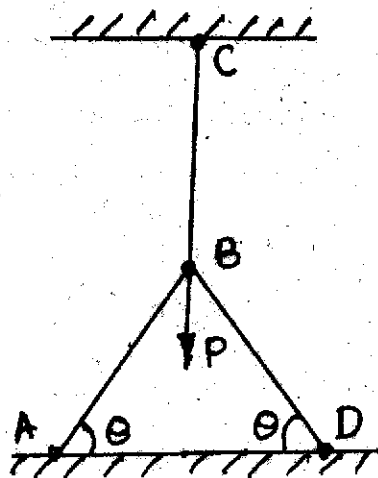

Fig. 1
- (c) A three bar assembly shown in Fig. 1 supports vertical load 'P'. Bars AB and BD are identical, each of length 'L' and cross-sectional area 'A₁'. Vertical rod BC is also of length 'L' but having area 'A₂'. All bars are having same modulus of elasticity 'E' and pinned at A, B, C and D. Determine axial force in each rod. [6]